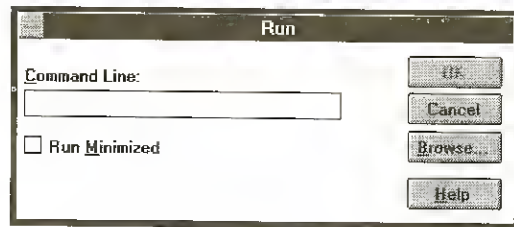

Figure 3-1: The Run dialog box.
3. In Program Manager, select Run from the File menu. The dialog box in Figure 3-1 appears.